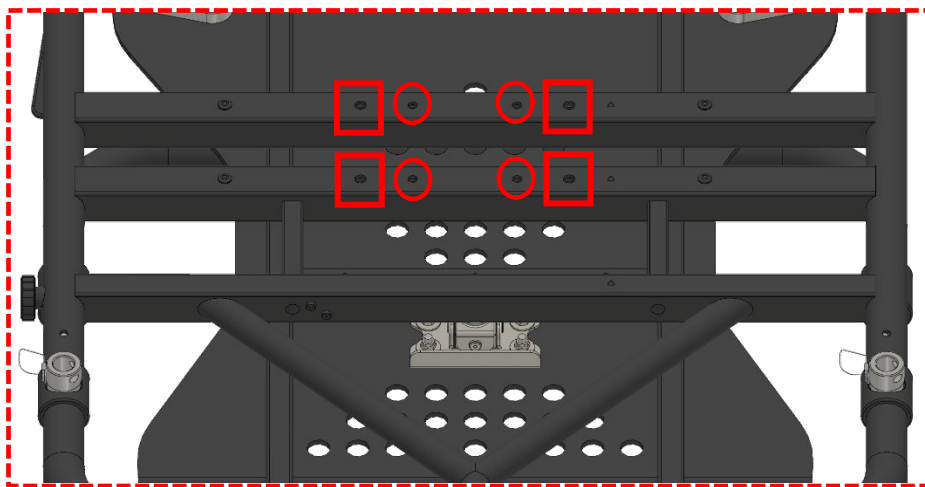

Figure 14 Inspection of mounting threads at bottom side
- Before and after each installation, the **M8 and M10 mounting holes** (see red marking in Figure 14, circular markings are for M8, rectangular markings are for M10) must be carefully inspected, as they may get damaged during the installation of the hanging accessory.